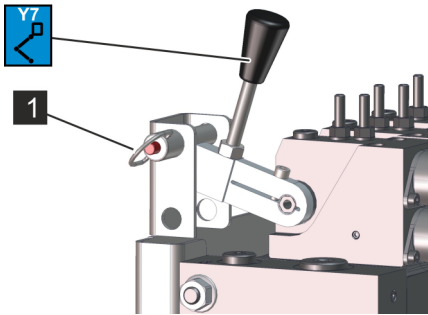

Fig. 166: Locking pin
5. → Lock the valve (Fig. 166/Y7) with the locking pin (Fig. 166/1).